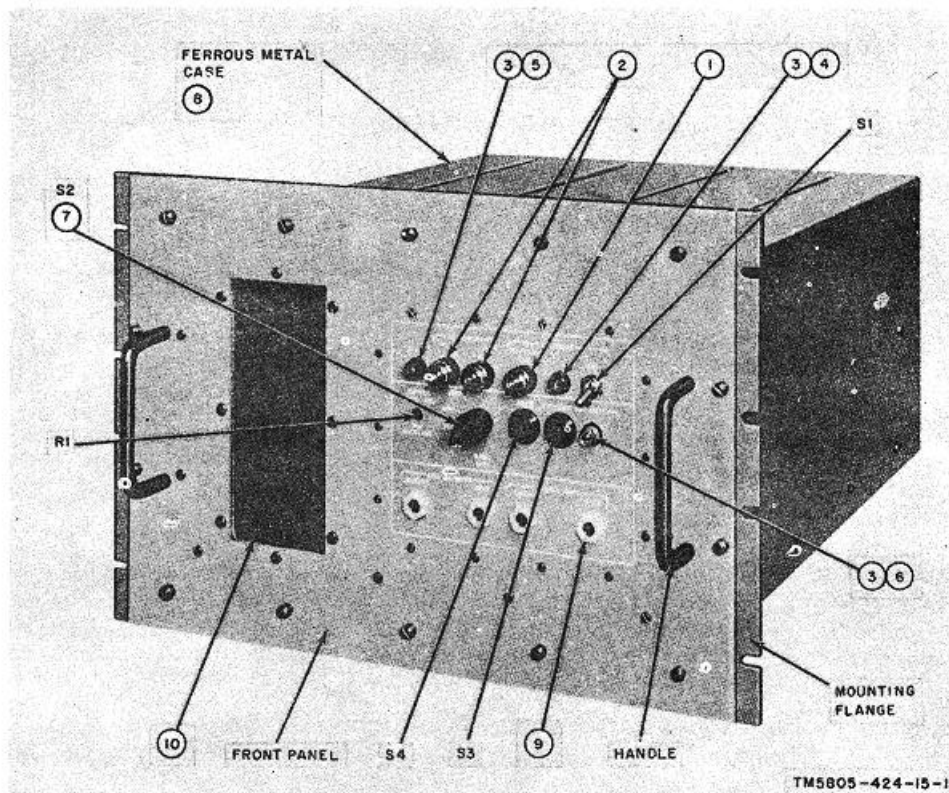

Figure 1-1. Modem, Low Speed Wire Line MD-474(P)/G.
a. This manual describes Modem, Low Speed Wire Line MD-674(P)/G (fig. 1-1), and covers its installation, operation, and maintenance. It includes instructions for operation under usual and unusual conditions, and also includes detailed functioning of the equipment.